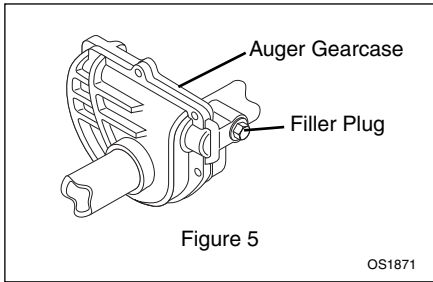

Figure 5
1. Remove filler plug (Figure 5). Lubricant must be at least up to bottom of lubricant filler hole with unit resting on a level surface.